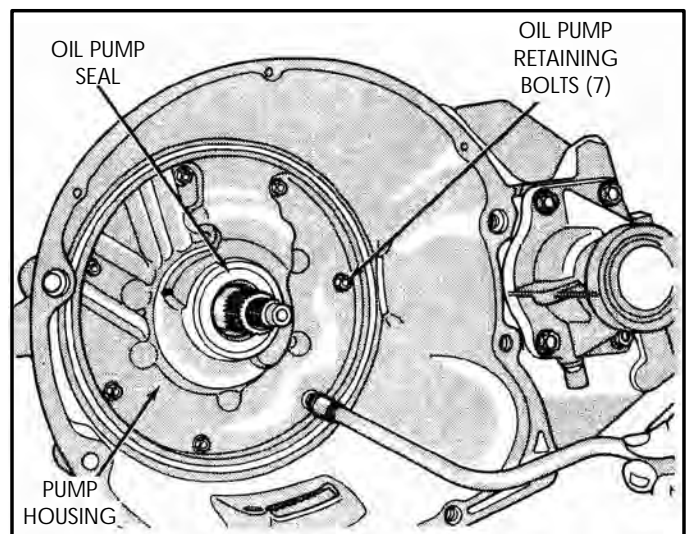

Figure 39
18. Remove the seven oil pump assembly retaining bolts, as shown in Figure 39.